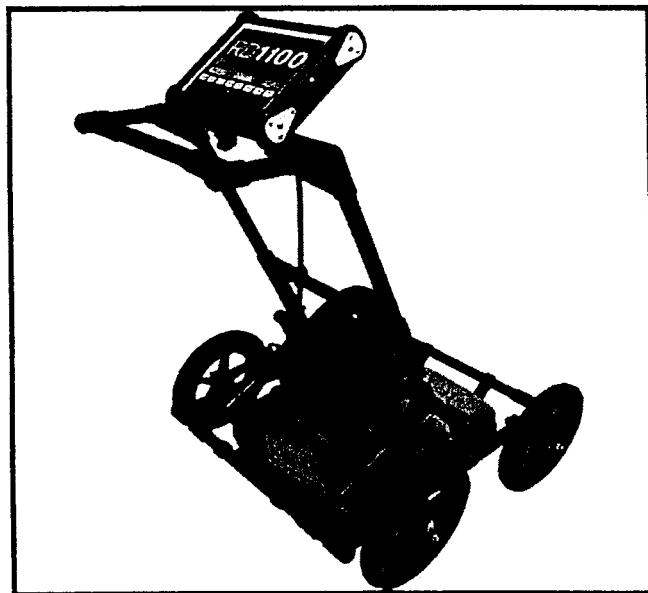

Figure 1(b) / Rajah 1(b)
- CLO1 (b) Based on **Figure 1(b)**, identify the instrument used for this utility survey works